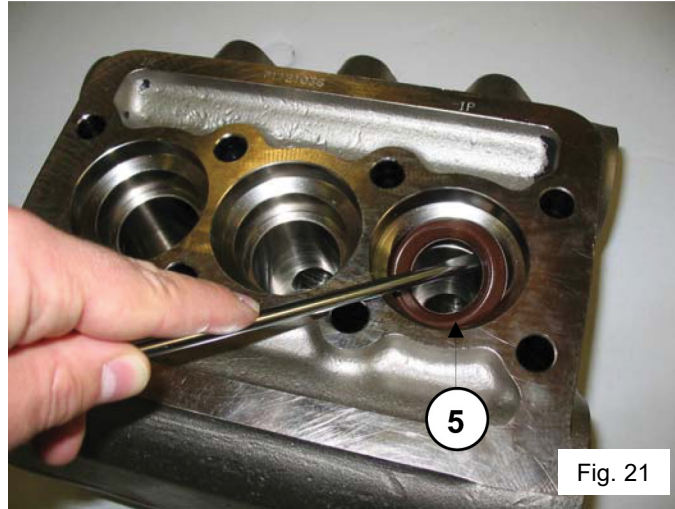

Fig. 21
C) Extract the high pressure seals from the head, and the low pressure seals from their related support by using standard tools as shown fig. 21; be careful not to damage the seals.